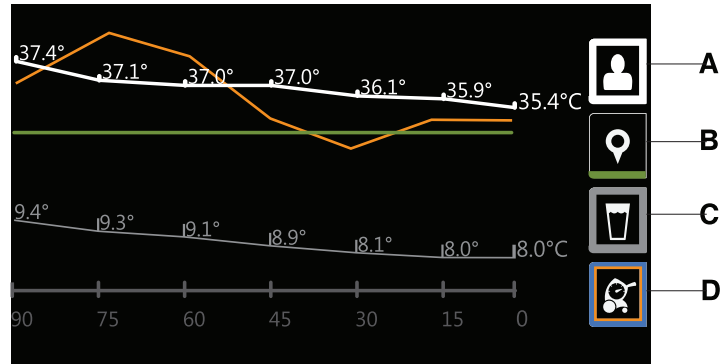

Figure 1-18: Graphical display
- Primary patient temperature reading from attached probe (A) (Figure 1-18 on page 1-33)
- Intermediate target temperature (B)
- Water temperature (C)
- Power level (D)